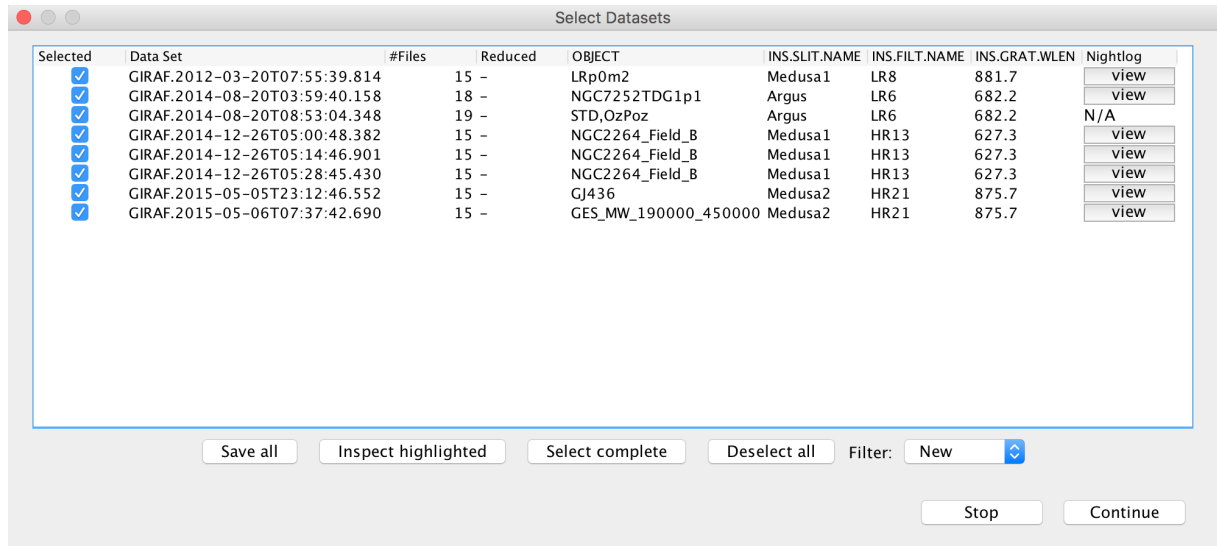

Figure 4.2: The ‘Select Datasets’ pop-up window. Note it may be necessary to increase the width of the window in order to see all the information.
7. The `Data Set Chooser` actor will be highlighted next and will display a “Select Datasets” window (see Figure 4.2) that lists the datasets along with the values of a selection of useful header keywords⁵. The first column consists of a set of tick boxes which allow the user to select the datasets to be processed. By default all complete datasets which have not yet been reduced will be selected. A full description of the options offered by the `Data Set Chooser` will be presented in Section 6.2.5.